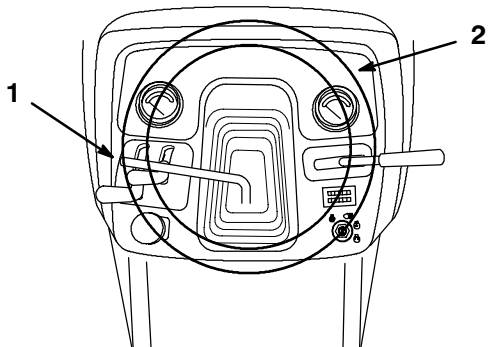

Figure 23
1. Lift the tilt lever to release the lock (Fig. 23).